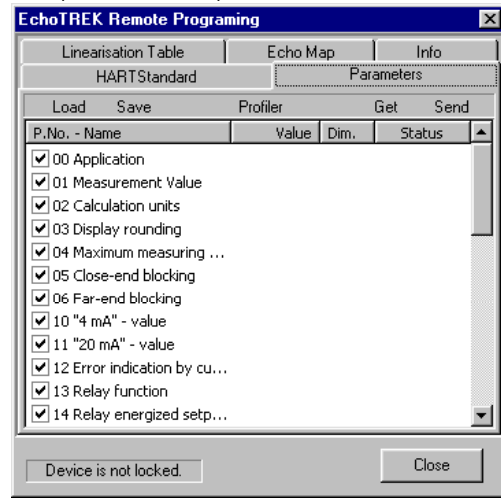
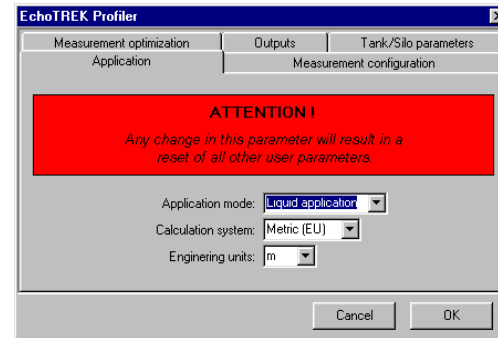

Figure 4
Figure 5
- Parameters: setting parameters of the field devices (Figure 4 and 5)
Setting parameters directly (Figure 4) means to click twice on the parameter to be changed resulting in the appearance of an editing window. Modification of the parameter will be made by clicking on the OK button of the editing window. If the attempt is refused (e.g. due to value being out of the range or invalid code for the parameter) Error indication appears under Status and the previous value will not be changed.
Profiler windows (Figure 5), based on the Programming Manual of EchoTREK/EasyTREK, represent descriptive environment of the parameters, and provide possibility of easy setting. By the use of the five tabs (representing parameter groups) parameters can be accessed and modified. Closing Profiler window, parameters can be viewed (and possibly checked) in the Remote Programme window (Figure 4) before sending to the field devices by pressing speed button *Send*. If the attempt is refused (e.g. due to value being out of the range or invalid code for the parameter) Error indication appears under Status and the previous value will not be modified.